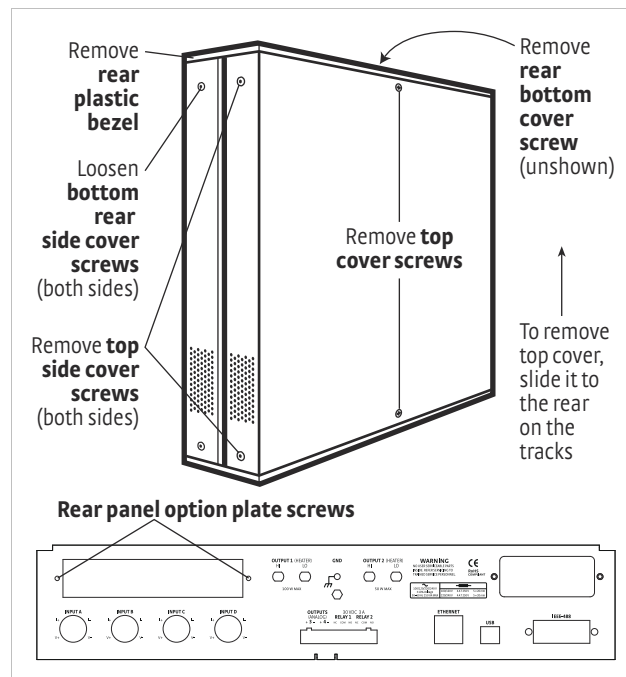

FIGURE 7-2 Cover and option plate screws (full rack)
RM-1	Rack Mounting Kit. Mounting brackets, ears, and handles to attach 1 Model 336 to a 482.6 mm (19 in) rack mount cabinet. See FIGURE 7-2.
3. Stand the unit on its face. Use the hex driver to remove the 4 screws on both sides of the top cover. Loosen the 2 rear bottom screws (FIGURE 7-2).
4. *Full rack only:* use a small Phillips screwdriver to remove the 2 top cover screws and 1 rear bottom screw (FIGURE 7-2).